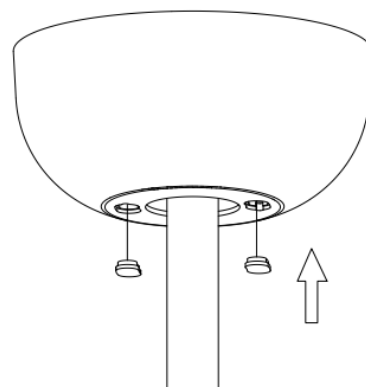

Fig. 12
3. Insert the decorative chips into the holes of the canopy. (Fig.12)